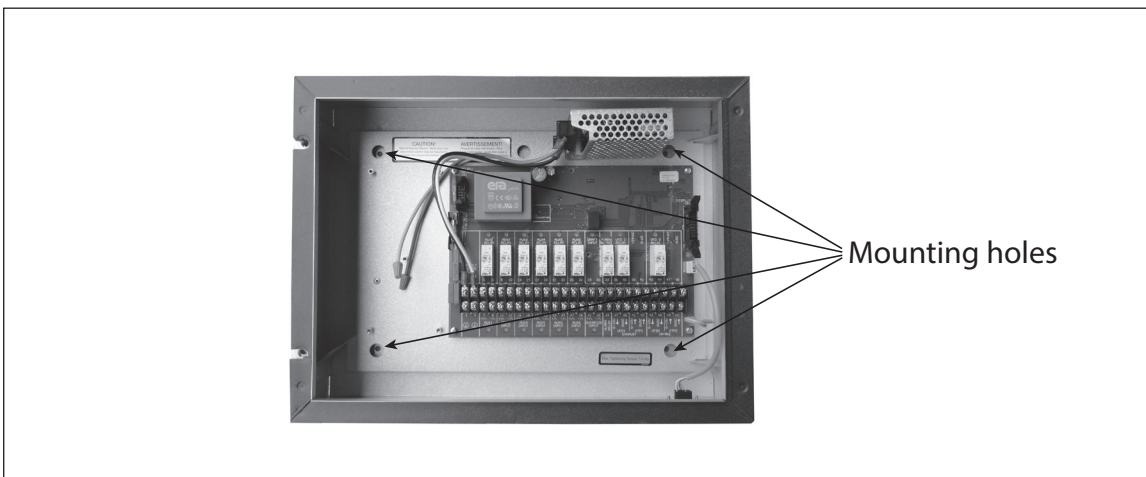

Fig. 4
The mounting holes are located inside the control as shown in Fig. 4. The distance between the control and the transducer should not exceed three hundred (300) feet.